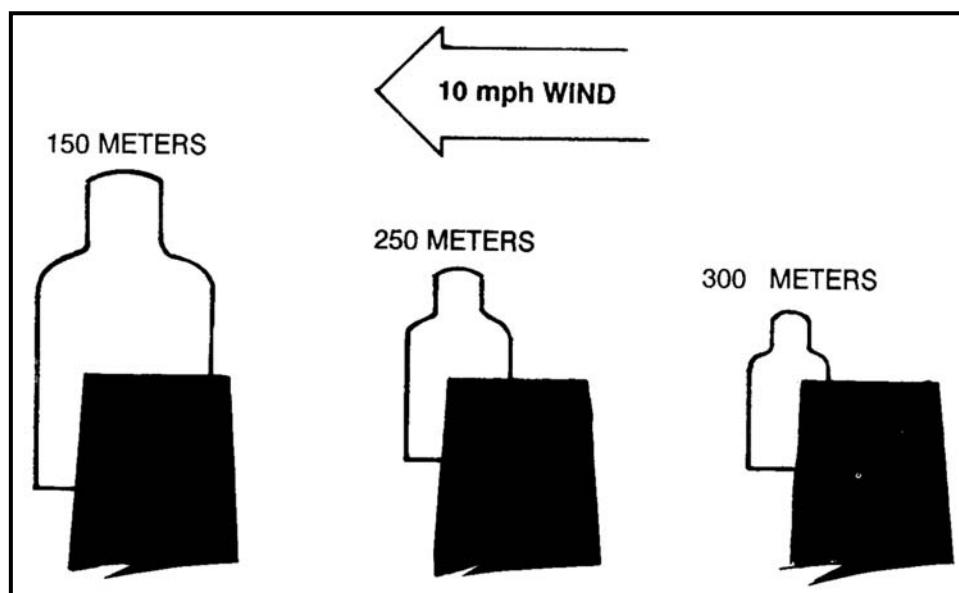

Figure 5-31. M16-/M4-series weapons adjusted aiming point based on wind speed.
e. **Adjusted Aiming Point Based on Gravity and Wind Speed** (Figure 5-31). Wind has a minor effect on the M16 bullet relative to the size of the target at ranges out to 100 meters. When engaging targets in excess of 150 meters in heavy winds, adjusting the aiming point for the wind increases the probability of a hit. Wind effects are uniform in relation to speed—that is, a 5-mile-per-hour wind has one-half the effect of a 10-mile-per-hour wind, and a 20-mile-per-hour wind has twice the effect of a 10-mile-per-hour wind.